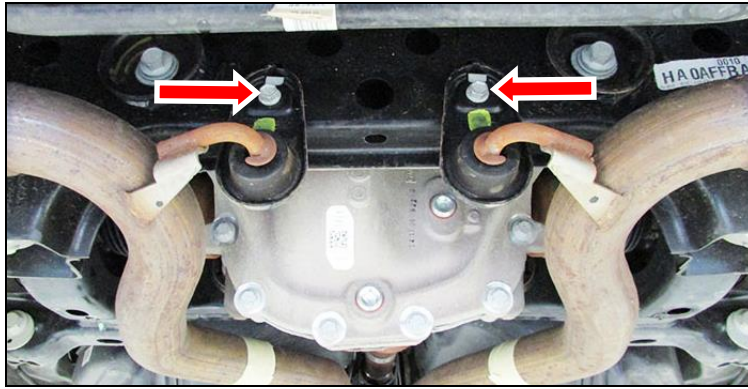

Figure 4
7. Remove the (x2) 13mm head bolts (**Figure 4**) securing the left and right side front OE muffler isolation mount brackets to the chassis. Set these parts aside, as they will be re-used.